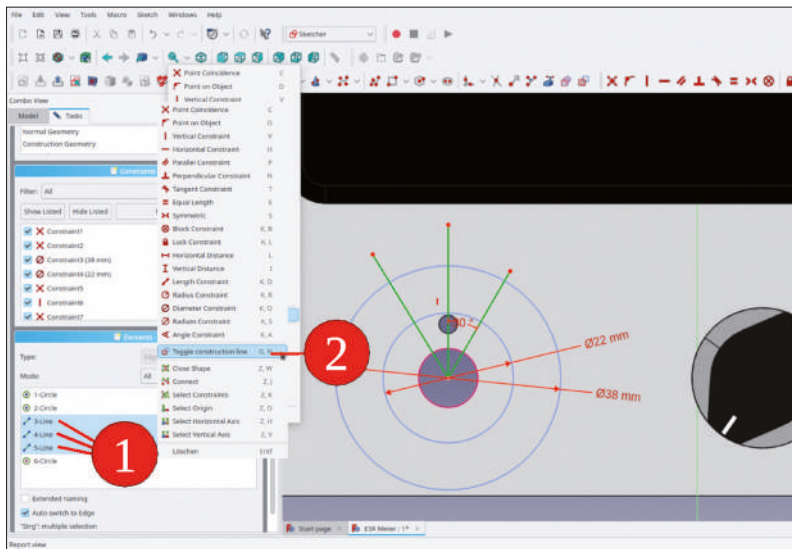

Figure 8-7
11. In the 'Elements' list, mark the three new lines. Right-click the selection and select 'Toggle construction line' from the context menu (Figure 8-7). The three lines also switch to blue color.